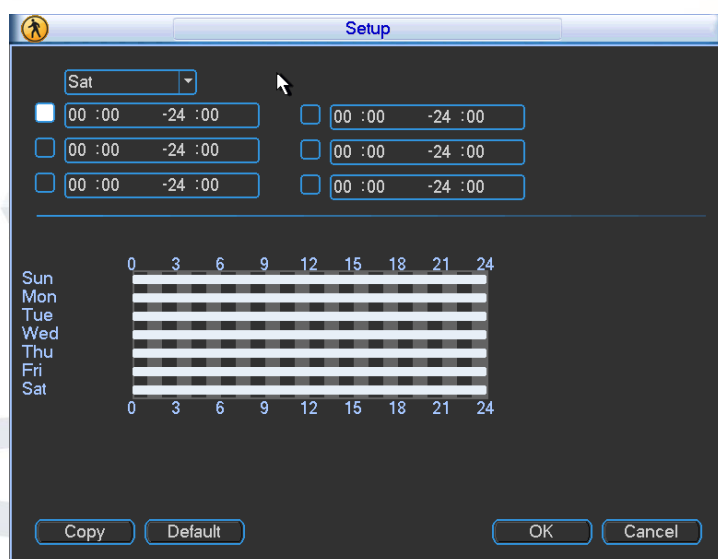
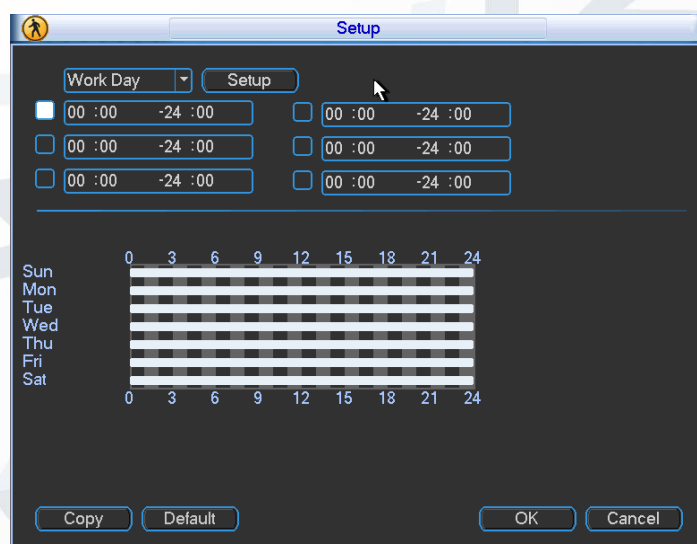

Figure 4-27
Figure 4-28
- **Period:** Click set button, you can see an interface is shown as in Figure 4-27. Here you can set motion detect period. System only enables motion detect operation in the specified periods. It is not for video loss or the camera masking. Please select Sunday to Saturday from the dropdown list. You can see there are six periods for you to set. Please note you need to check the box before the period to enable the period setup valid. In Figure 4-27, select work day or non-work day from the drop down list, and then click the Set button, you can set your own business day and non-business day setup. See Figure 4-28. You can set Monday to Friday as the working day and Saturday and Sunday as non-business day. Click Save button to go back to previous interface.